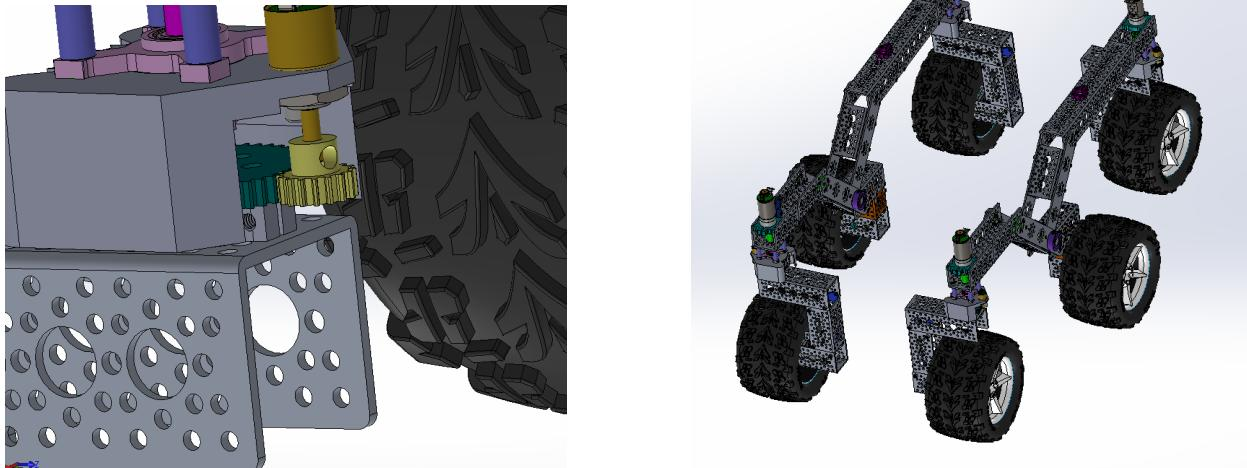

Figure 6: Attaching the wheels
1. Attach the four corner wheel assemblies to the corner steering assemblies. They are all symmetric. You may need to spin the encoder gears to mesh with the motor shaft gears if they are not aligned initially. See Figure 6